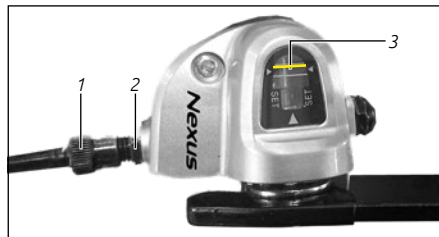

Fig.:53
2. Look in the viewing window (see "Fig.:53") of the gear box and check the current gear setting.
- Or loosen the locknut (see "Fig.:53"(2)) on the viewing window to turn the knurled screw (see "Fig.:53" (1)) until the yellow marking is exactly between the boundary lines.